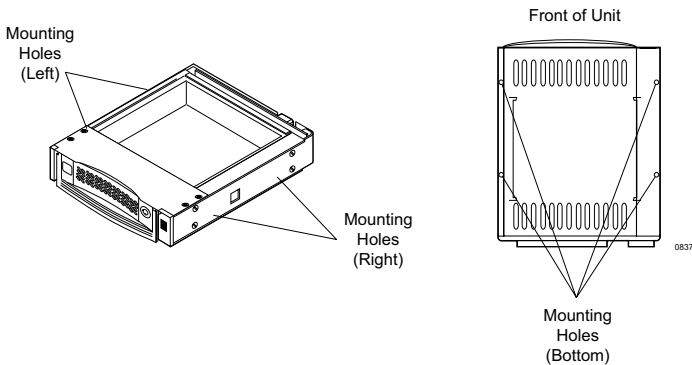

Figure 8A: Receiving Frame Mounting Holes
3. With the drive carrier locked in place inside the receiving frame, install the SATA DE110 into the 5.25” drive opening in the computer or expansion chassis. Use the appropriate guides to position the Data Express, and fasten it into place with the four (4) #6-32 Phillips screws provided. Figure 8A illustrates the location of the mounting holes. Mounting holes are provided on each side and the bottom of the receiving frame to accommodate a variety of mounting configurations. Use the mounting holes which best suit the computer or expansion chassis configuration. Note that bottom mounting holes require self-tapping screws (not provided).